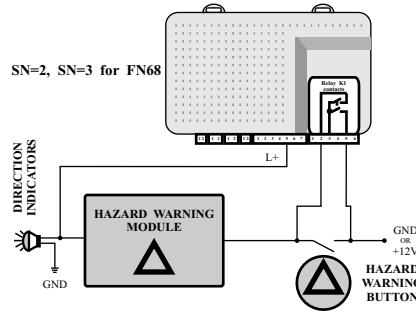
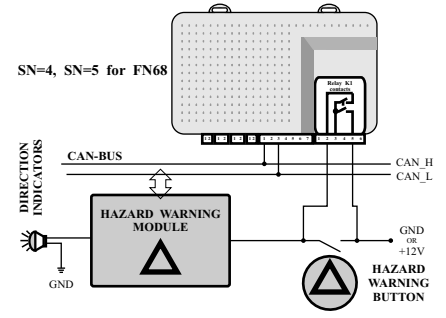
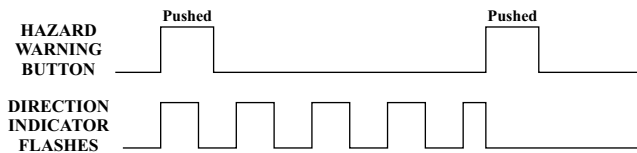
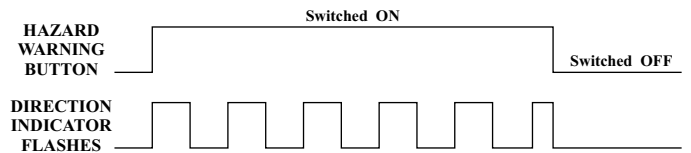

Fig. 3. Alarm system counts the flashes via input L+.
Fig. 4. Alarm system counts the flashes via CAN-BUS.
Fig. 5. The push of the hazard warning button makes short electrical pulses.
Fig. 6. The push of the hazard warning button makes the continuous electrical signal turn ON or OFF.
- the alarm system emulates the car's hazard warning button when pushed (N.B. relay K1 makes the circuit short) and the car starts the direction indicators flashing. The number of flashes is counted via 'L+' input, which is connected to the direction indicator (see Fig.3). When the number of car indicator flashes match the number of flashes the alarm system requires, the next emulation of the hazard warning button being pushed is made by the alarm system to stop the flashing.
- b) the alarm system emulates the pushing of the car's hazard warning button (N.B. relay K1 makes the circuit short) and the car starts the direction indicators flashing. The number of flashes is counted by the analysing information in the CAN-BUS (see Fig. 4). When the number of car indicator flashes match the number of flashes the alarm system requires, the next emulation of the hazard warning button being pushed is made by the alarm system to stop the flashing.
For most modern cars the push of the hazard warning button makes an electrical pulse and it starts the direction indicator flashing. The next pulse comes with the next push and it stops the indicators flashing (see Fig. 5). The 'GN7C' makes these pulses with the help of relay K1 by closing normally open contacts for 0.25 second.
For very few cars the push of the hazard warning button makes a continuous electrical signal and the direction indicator is flashing only when this signal is present (see Fig. 6).
- the direction indicators are connected according to Fig. 3 and the hazard warning button operates according to Fig. 5. This is the second most popular direction indicators connection method. The SN=2 must be set for FN68;
- the direction indicators are connected according to Fig. 4 and the hazard warning button operates according to Fig. 5. This is the third most popular direction indicators connection method. The SN=4 must be set for FN68;
- the direction indicators are connected according to Fig. 3 and the hazard warning button operates according to Fig. 6. This is a rarely used indicator connection method. The SN=3 must be set for FN68;
- the direction indicators are connected according to Fig. 4 and the hazard warning button operates according to Fig. 6. This is a rarely used indicator connection method. The SN=5 must be set for FN68.